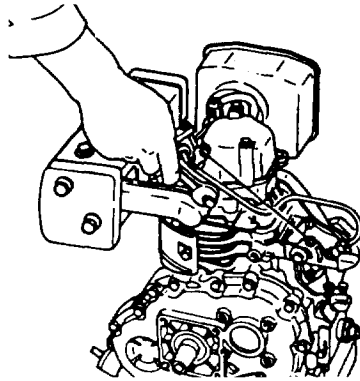

Figure 6-2 Removing the muffler
- 2) Remove the stay bolt (see Figure 6-2).